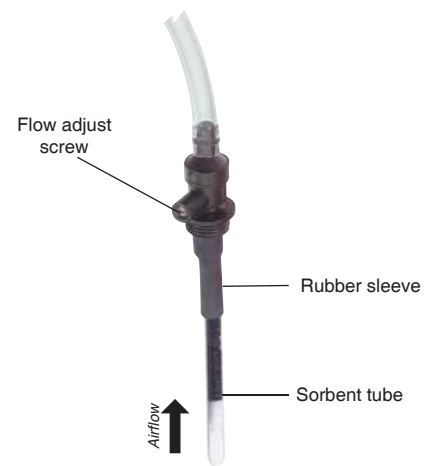

Figure 3. Single Adjustable Tube Holder with Sample Tube
Using Single Adjustable Tube Holder (Figure 3)
4. Insert an opened representative sorbent tube into the rubber sleeve (Figure 3) of the tube holder with the arrow on the tube pointing toward the tube holder.
6. Using flexible tubing, connect the exposed end of the sorbent tube to the calibrator outlet (suction port). Loosen the brass flow adjust screw (Figure 3) on the tube holder. Adjust the flow rate by turning the flow adjust screw (counterclockwise to increase, clockwise to decrease) until the calibrator indicates the desired flow. Take a minimum of three readings and record the average flow rate, as per OSHA/NIOSH instructions.